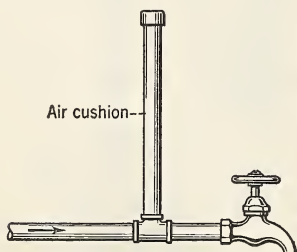

FIG. 116. The air cushion in the vertical pipe prevents "pounding."
6. A pipe is sometimes fitted to the water pipe near the faucet, as shown in Fig. 116. How does such a pipe, which contains air, keep the water from "pounding" when the water is turned off suddenly?